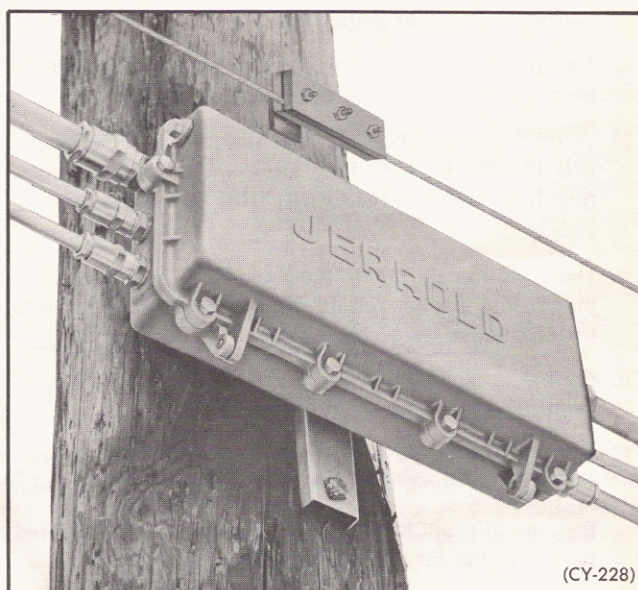

Fig. 5 Model SA-\* Vertical Mount on Utility Pole
- 5.6 Mount the housing on the pole or on the cross-arm so that when facing the trunk line, r-f signal flow will be from left to right. Commercial galvanized  $\frac{3}{8}$ " lag bolts about 4" long can be used through the two holes in the vertical arm of the bracket (see Fig. 5). For cross-arm mounting steel bolts, washers and nuts can be used instead of lag bolts.